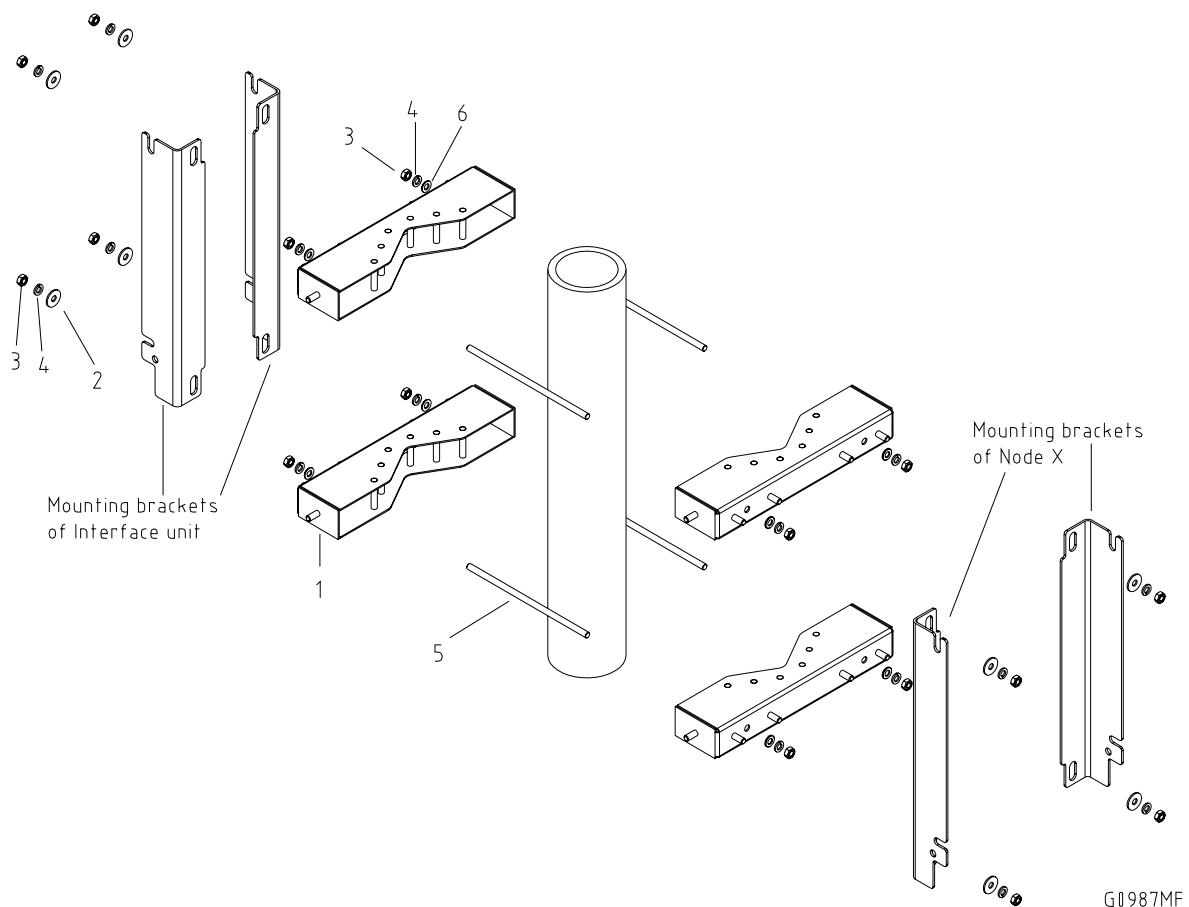
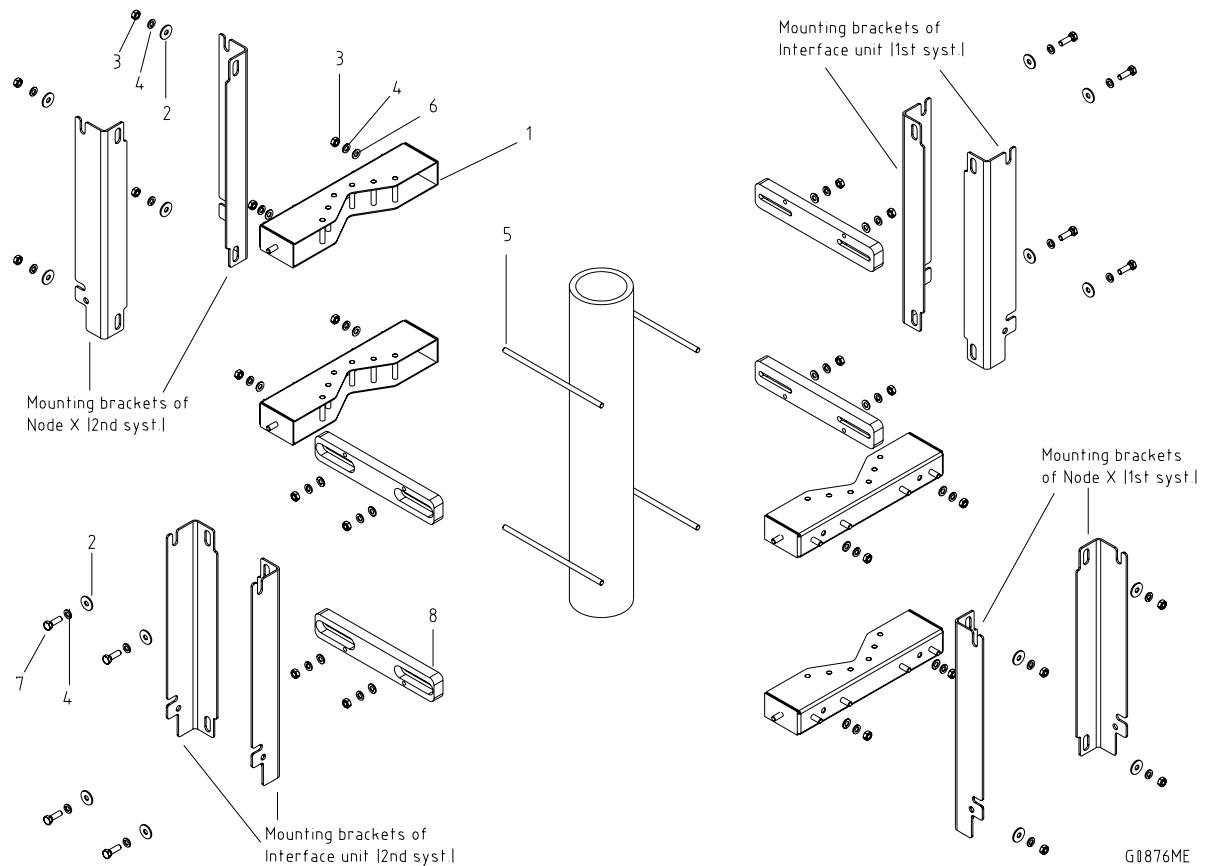

figure 3-6 Back-to-back pole mounting
figure 3-7 Pole mounting two systems
- Fasten the mounting brackets to the pole using the corresponding mounting kit as illustrated in *figure 3-7 Pole mounting two systems* or *figure 3-6 Back-to-back pole mounting*, respectively.
- In case of two systems (*figure 3-7*) first mount the mounting brackets of the Node C units; then adjust and mount the fasteners (no. 8) accordingly before fastening the mounting brackets of the Interface Units to the fasteners.